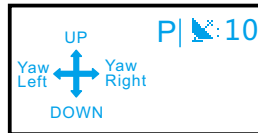

Figure 10-3: Normal
② In the upper right corner, it displays the current mode and GNSS signal of the drone (Refer To Figure 10-3).
③ The connection status between the remote controller and the drone is displayed in the bottom right corner.
- If there is no display in the bottom right corner (See Figure 10-3), it indicates that everything is normal and you can operate the drone.